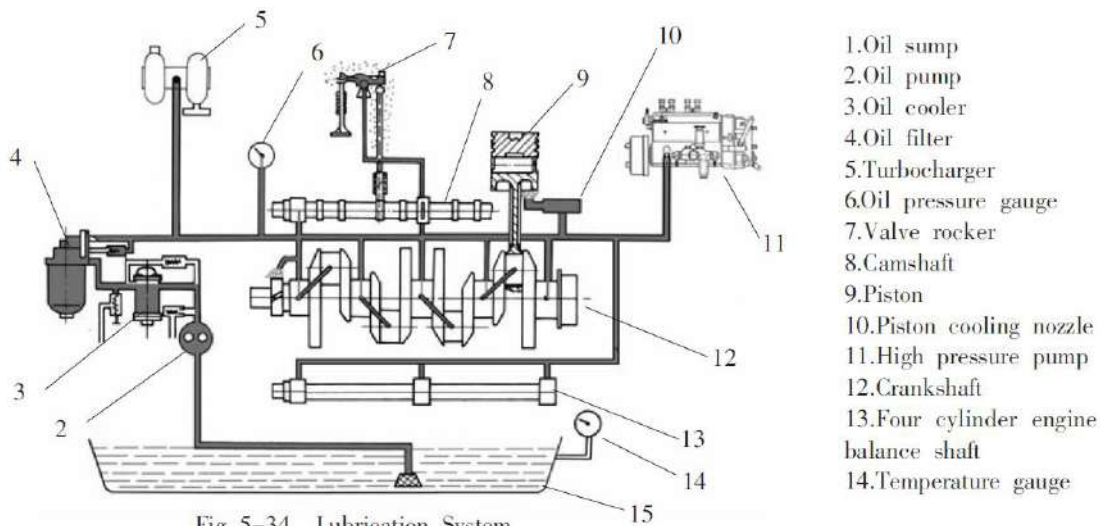

Fig 5-34 Lubrication System
4.1 Pressure-splash lubrication is used for GENERGY series engines. Lubrication system can make the moving parts get good lubrication so as to reduce friction power loss and parts excessive wear, and carry away heat and scraps caused by friction, and purify the lubrication continuously (see Fig 5-34).